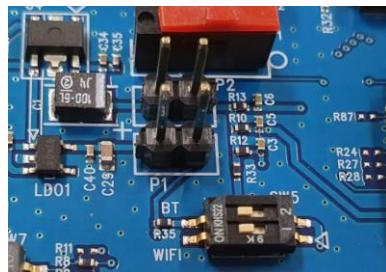

Figure 53. Set up DA16600 EVB jumper
3. Open the DA16600 EVB's power jumpers P1 and P2 as shown in Figure 53. DIP Switch (SW5) should be on to measure both of Wi-Fi chipset and Bluetooth® LE chipset.